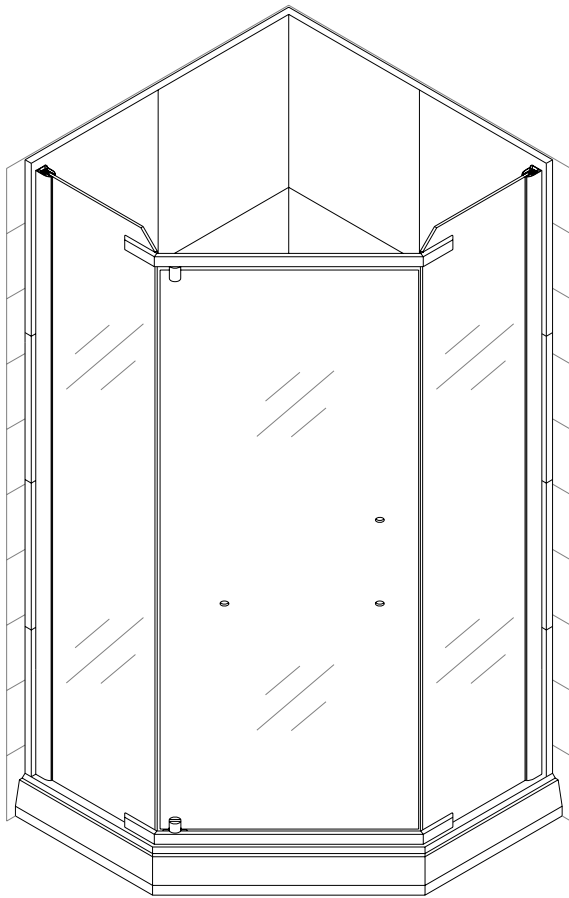

Fig 5
8. Install the **Handle (6)** to the **Glass door**. Locate the Vertical Handle and the Horizontal Handle. The horizontal handle will be on the outside and the vertical handle will be on the inside of the door. Start the installation from the outside which will involve the horizontal handle first. Don't forget to use the rubber gaskets between the glass and washers (Fig 5).